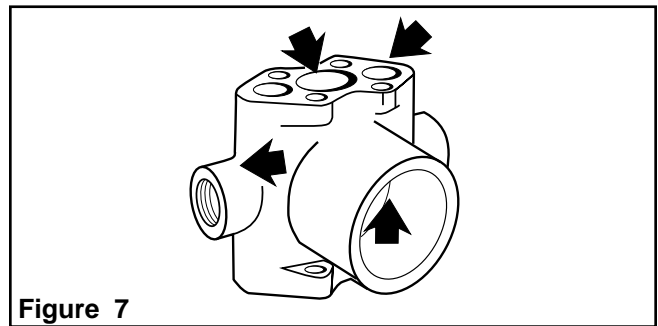

Figure 7
1. Inspect Pump Body for erosion at O-ring seal points in Valve and Piston bores. Check for wear resulting from Main Bearings turning in Housing, especially the Front Bearing area closest to the Cam Bearing. Check for cracks in the Pump Body, particularly at the discharge port and along the casting seam (See Figure 7).
2. Inspect for excessive wear on the Cylinder Heads. This can result from erosion and/or valve seat hammer (See Figure 7).
3. Inspect for pitting and general wear in the United Valves, particularly where the Poppets seal against the seat. If this area is worn, replace all four Valves (See Figure 7).